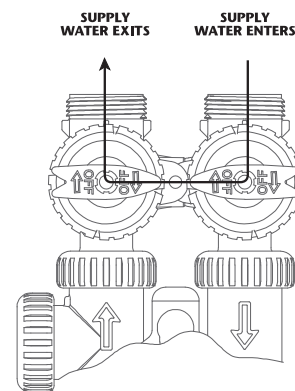

Figure 2
2. **BYPASS POSITION:** The inlet and outlet handles point to the center of the bypass. The system is isolated from the water pressure in the plumbing system. Untreated water is supplied to the building (**Fig. 2**).